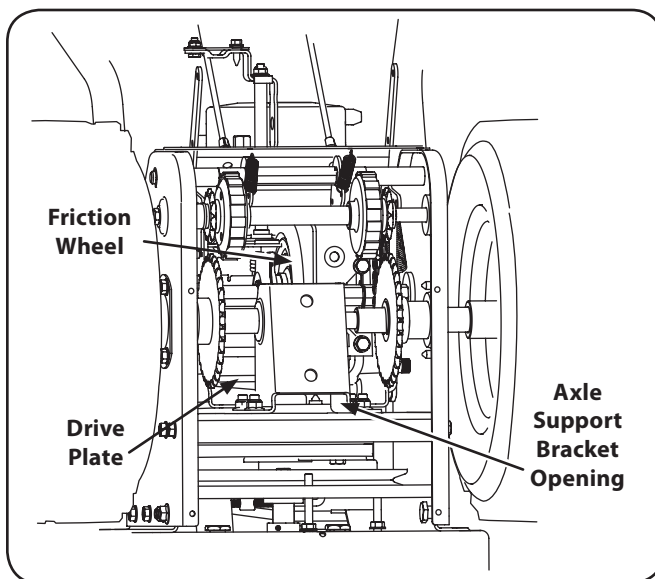

Figure 6-7
2. Locate the opening between the axle support bracket and the front frame support (See Figure 6-7). Looking through this opening, with the wheel drive control released, there must be clearance between the friction wheel and the drive plate in all positions of the speed selector lever.
3. With the wheel drive control engaged, the friction wheel must contact the drive plate. See Figure 6-7.